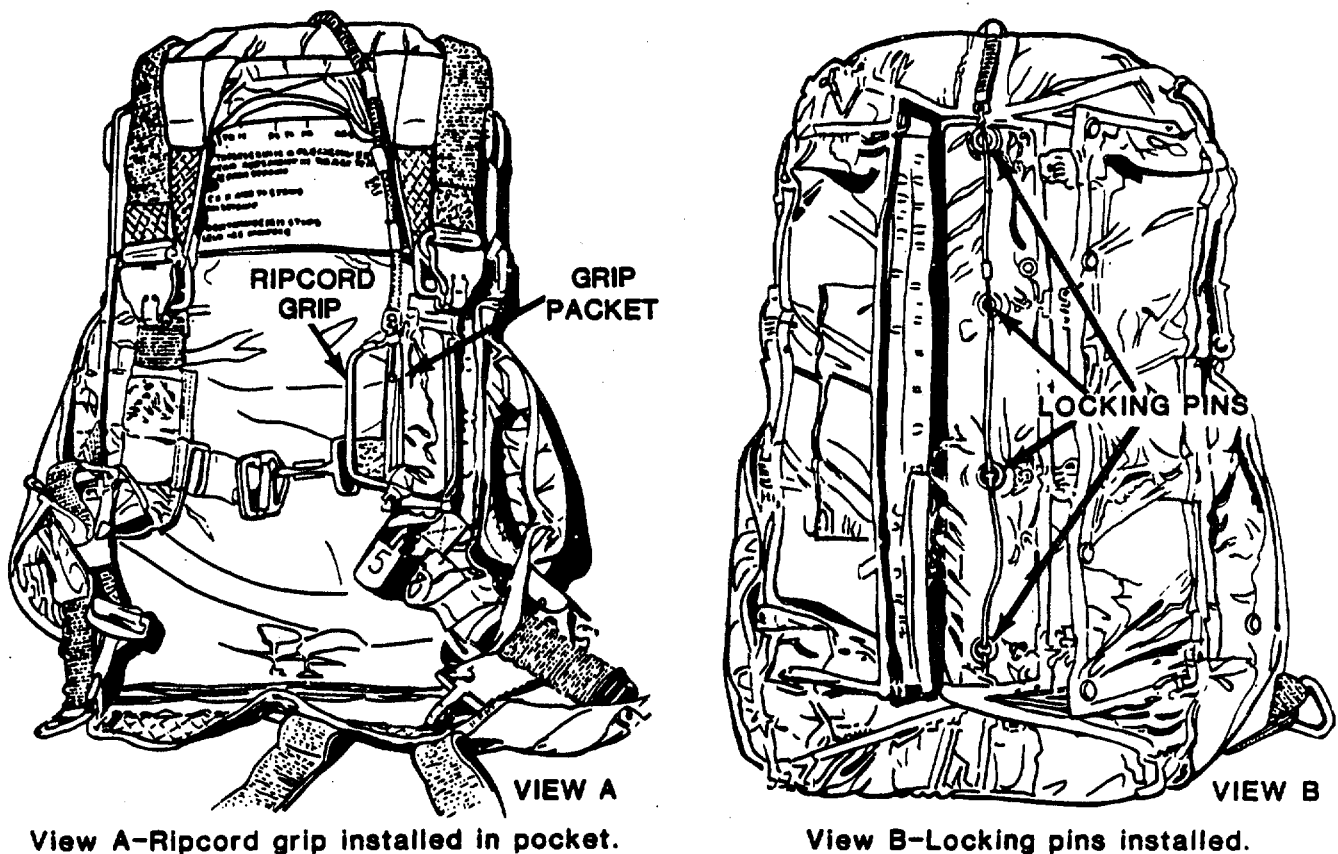
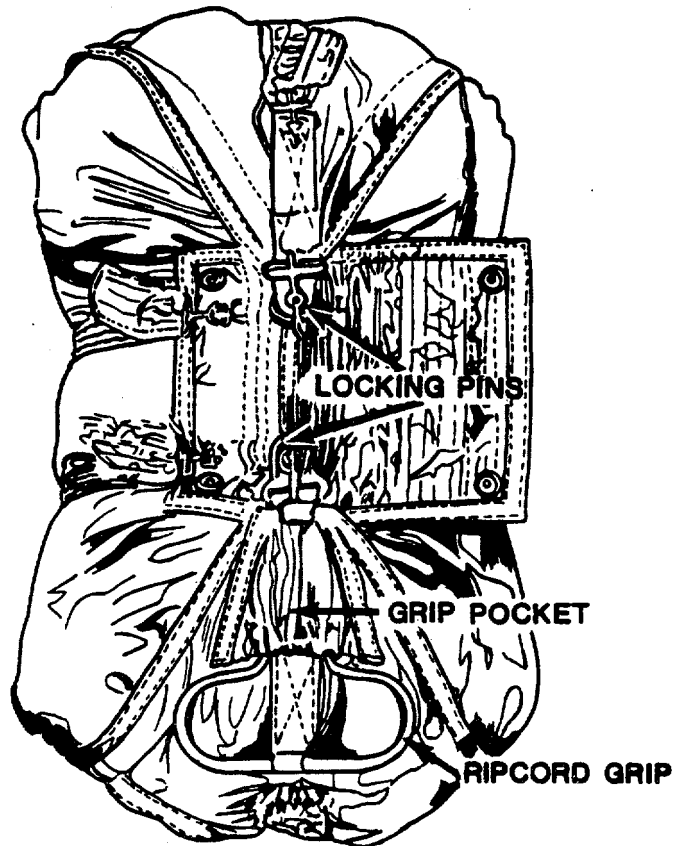

Figure 1.8. Ripcord Grip Installed in Pocket and Locking Pins Installed.
Figure 1-9. The Chest Type Parachute With Ripcord Grip and Locking Pins Installed.
c. *Ripcord.* The ripcord is a cadmium-plated steel grip and a flexible cable to which 1-1/2 inch steel locking pins are attached. A back type parachute is equipped with a trapezoidal shaped grip and four locking pins (fig. 1-8). The chest type parachute uses a cloverleaf shaped grip and two locking pins (fig. 1-9). The grip of a back type parachute is positioned in a sewn pocket on the upper left side of the harness and the grip of the chest type parachute is located on the right side of the pack. Pulling of the ripcord will begin the pack opening and canopy deployment sequence.
c. Inspect the ripcord grip to insure the grip is seated securely in the pocket (figs. 1-8 and 19).